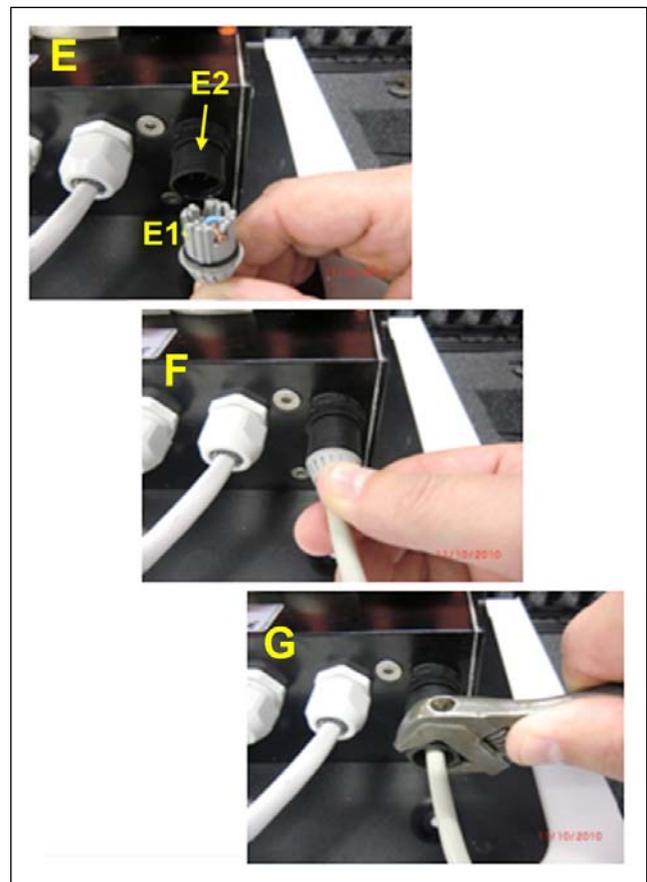

Fig. 5. Connecting the power cable.
1. Connect the power cable (fig. 5).